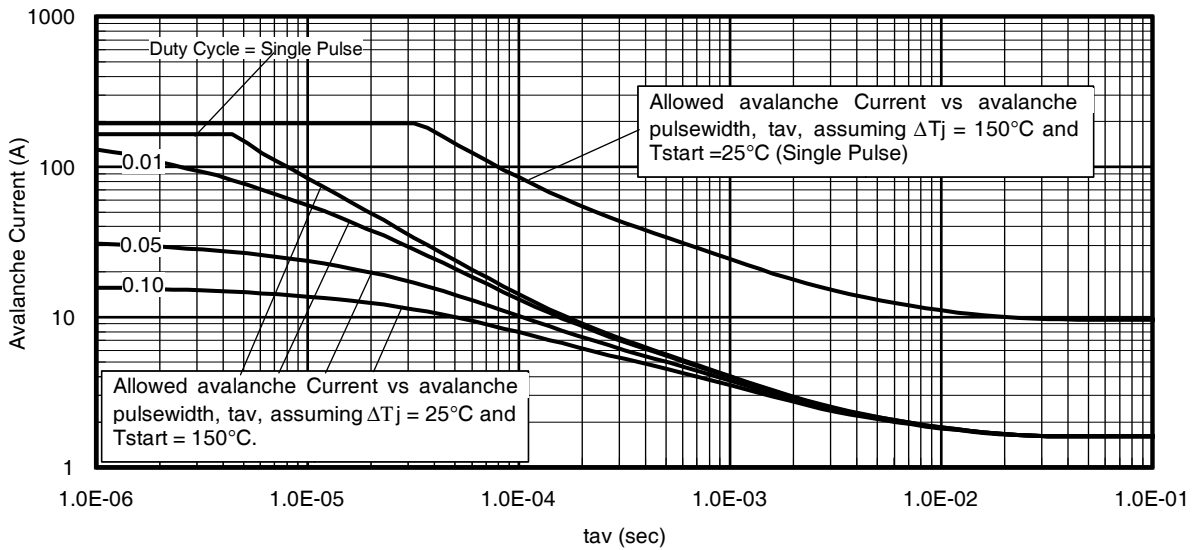

Fig 14. Typical Avalanche Current vs. Pulsewidth
- ④ $I_{SD} \leq 165A, di/dt \leq 430A/\mu s, V_{DD} \leq V_{(BR)DSS}, T_J \leq 175^\circ\text{C}$.
- ⑤ Pulse width $\leq 400\mu s$; duty cycle $\leq 2\%$.
- ⑥ $C_{oss \text{ eff. (TR)}}$ is a fixed capacitance that gives the same charging time as C_{oss} while V_{DS} is rising from 0 to 80% V_{DSS} .
- ⑦ $C_{oss \text{ eff. (ER)}}$ is a fixed capacitance that gives the same energy as C_{oss} while V_{DS} is rising from 0 to 80% V_{DSS} .
- ⑧ When mounted on 1" square PCB (FR-4 or G-10 Material). For recommended footprint and soldering techniques refer to application note # AN-994.
- ⑨ R_{θ} is measured at T_J approximately 90°C .
- ⑩ Limited by T_{Jmax} , see Fig. 14, 15, 22a, 22b for typical repetitive avalanche performance.
- ⑪ $R_{\theta JC}$ value shown is at time zero.
Notes on Repetitive Avalanche Curves, Figures 14, 15:
7. ΔT = Allowable rise in junction temperature, not to exceed T_{jmax} (assumed as 25°C in Figure 14, 15).